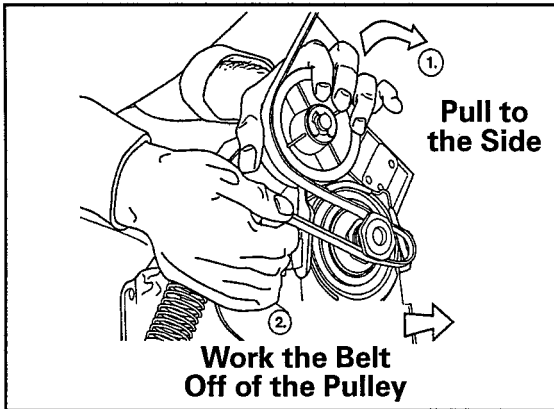

Figure 6-9
**Note:** *There is a built-in stop to prevent overstressing of the idler arm spring.* Slip belt off the motor pulley. (See Figure 6-9)